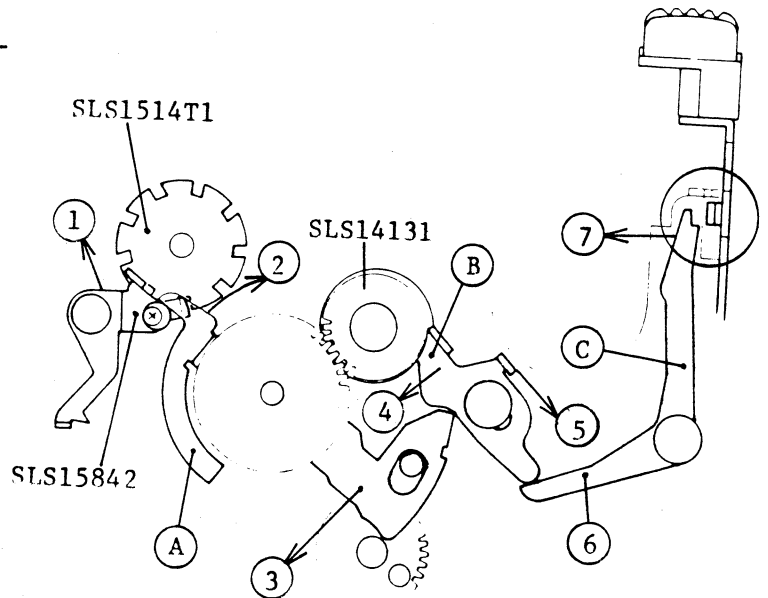

Fig. 14
- 3) When winding up film advance crank or knob, top of SLS15842 Stop lever goes into a hollow of SLS1541T1. And then moves (A) lever in direction shown by the arrow in Fig. 14.
- 4) When the (A) lever moving in direction → 2 → 3, (B) stopper get in cam of SLS14131 (A) rotation stop disc. Then film advance crank or knob does not wind any more.